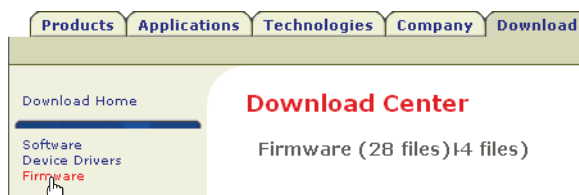

Figure 5-9 — Location of firmware upgrade files
1. Visit the Extron Web site, www.extron.com, click the **Download Center** tab, and then click the **Firmware** link (figure 5-9). Select the appropriate firmware file to download and copy it to your computer. Note the folder to which you save the firmware file.